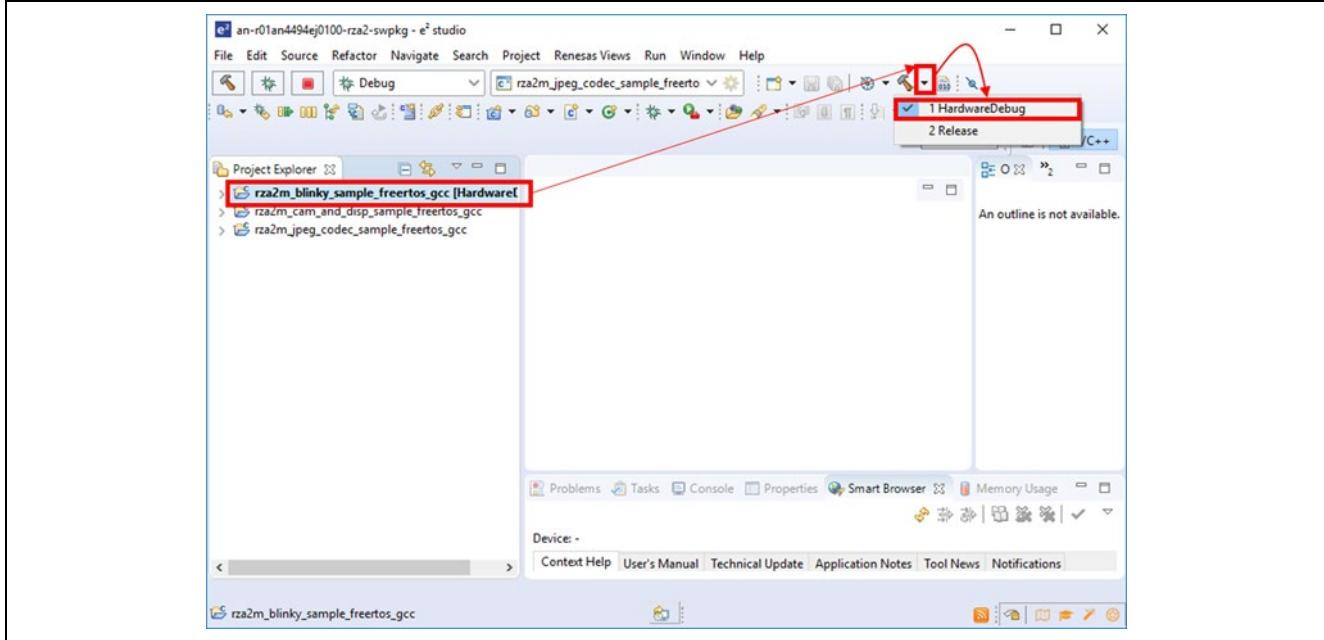

Figure 3-8 Build the target project
- Select your target project by left clicking on it, then click the arrow next to build button (hammer icon) and select ‘Hardware Debug’ from the drop-down menu. From next time, user can build the project by this Build button (hammer icon). This is shown in Figure 3-8